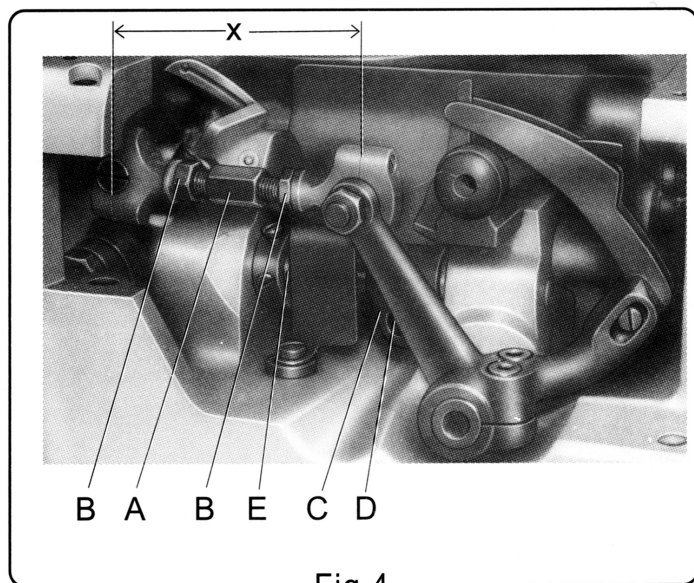
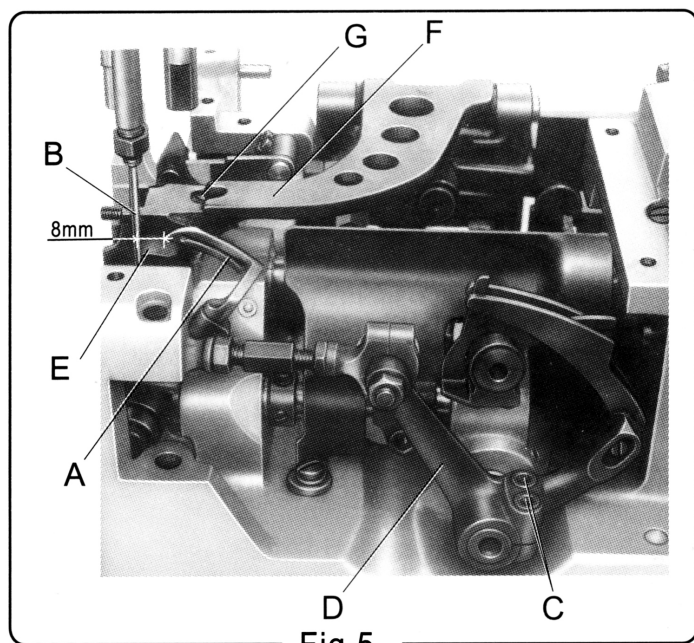
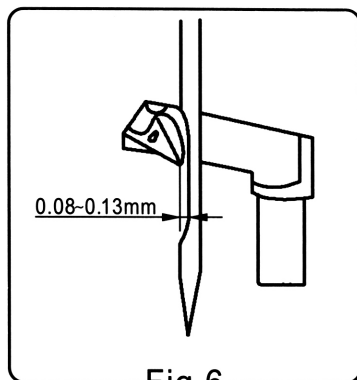
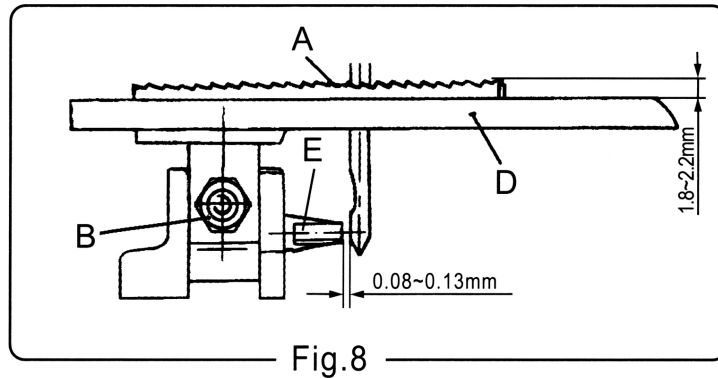

Fig.4
Fig.5
Fig.6
Fig.8
a.First set the looper connecting rod A (Fig.4), so the distance X (Fig.4) between the centre lines of the two ball joints is 69.8mm. For adjustment, loosen the two nuts B and turn connecting rod A forward or backward as required to obtain specified dimension. Retighten nuts B.
b.Rotate the machine pulley clockwise by hand, so that the needle bar moves to the lowest point, at the same time the looper moves back to its farthest position to the right. The distance from the point of the looper A (Fig.5) to the centreline of the needle is 8mm. For adjustment,loosen two screws C in the looper drive lever, rotate looper drive lever D left or right as required to obtain specified dimension and retighten screws C.
c. Rotate the machine pulley so that the looper A (Fig.5) moves from right to left. The looper point should pass close as possible as the back of the needle without contacting, about 0.08 ~ 0.13mm (Fig.6) clearance. For adjustment, loosen screw D (Fig.4) in the looper eccentric fork C and turn rocker shaft E on the looper rocker with the looper forward or backward as required. Retighten screw D.
The needle guard E (Fig.8) will protect the needle and prevent it from bending or breaking when the needle goes down. The clearance between the needle and the needle guard is 0.08 ~ 0.13mm (Fig.8) For adjustment, rotating pulley in the direction of operating, so that the needle guard moves against the needle. Loosen set screw G on feed dog holder (Fig.5), move the needle guard accordingly. Retighten screw G.
The height of the feed dog A (Fig.8) is determined by the quality and the thickness of the sewing materials. For closing thin material such as bags made of cloth and plastic, teeth surface should project 1.8mm above the throat plate D top surface, and for sacks about 2.2mm above the throat plate. For setting, move the feed dog to the highest position, loosen nut B and adjust feed dog by raising or lowering it. Retighten screws B.